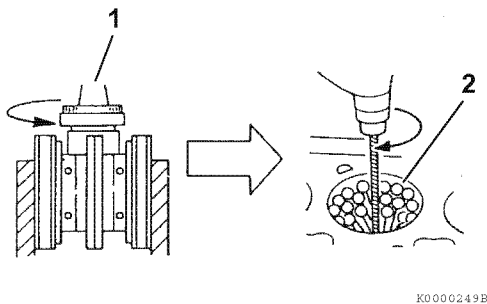

Figure 6-68
2. **Honing** - Minor cylinder imperfections may be corrected by using a rigid cylinder hone (1, **Figure 6-68**). Be sure not to exceed the maximum cylinder bore specification.
Deglazing - A used cylinder that did not require boring or honing, should always be deglazed with a ball hone (2, **Figure 6-68**) before installing new piston rings. This will properly prepare the cylinder surface to allow new piston rings to seat properly.
- Use a 300-grit hone at 300 - 1200 min⁻¹ (rpm) (Figure 6-68).